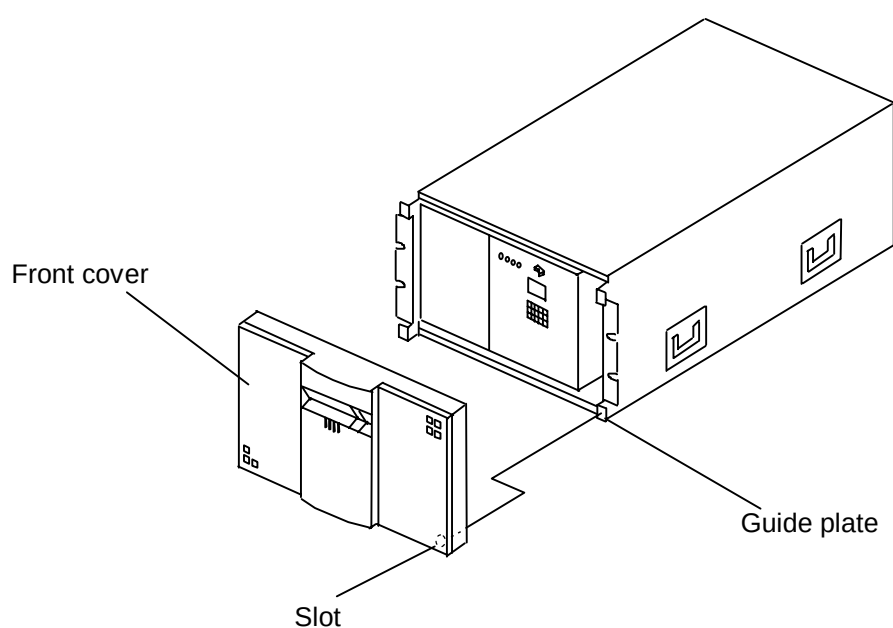

Figure 3.2.1 Attaching and Removing the Front Cover
(1) Removing procedure (See Figure 3.2.1.)
① Hold the grooves on both sides of the front cover and pull it toward you.
(2) Attaching procedure (See Figure 3.2.1.)
① Fit the guide plates of the main body with the slots of the front cover (four places) and press the front cover against them.